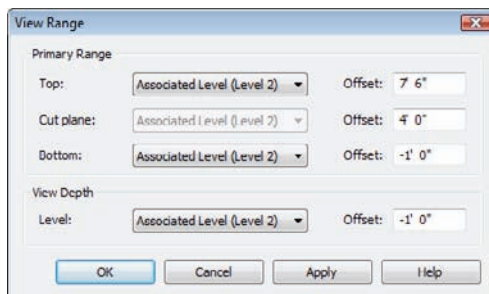

FIGURE 8.33 Setting the view range so you can see below the level
8. For View Depth, set Level Offset to -1'-0" (-300mm), as shown in Figure 8.33.